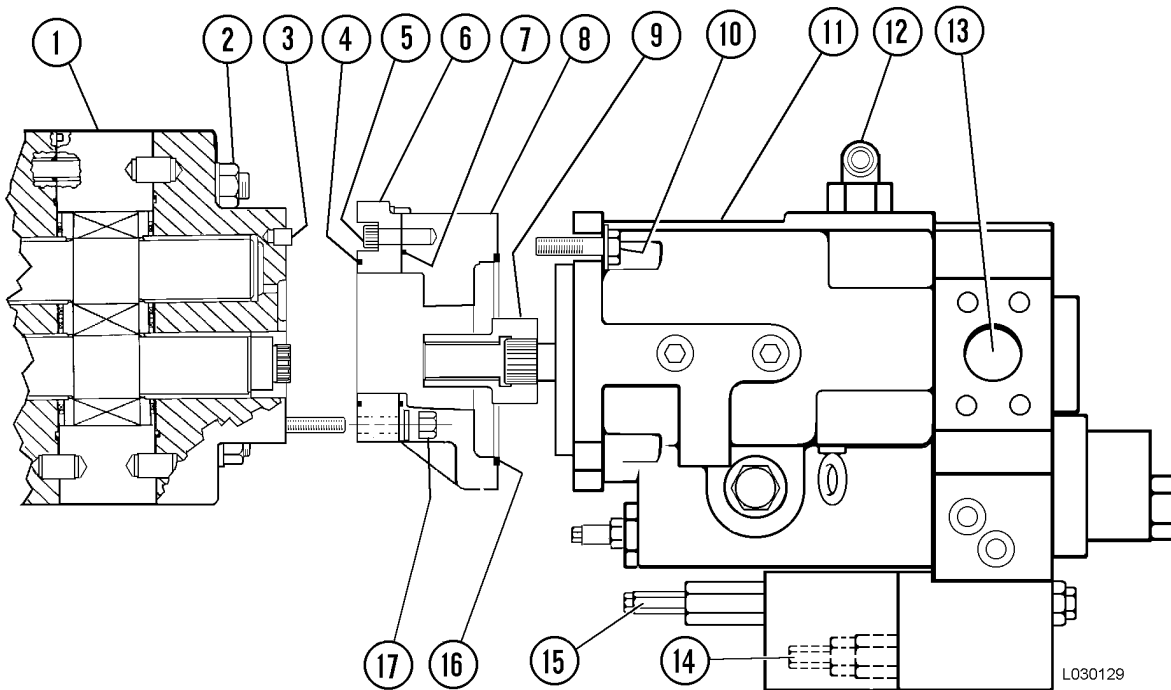

FIGURE 3-3. STEERING/BRAKE PUMP REMOVAL
10. Remove four steering/brake pump mounting capscrews (4). Slide the hoist pump forward to disengage the splines of drive coupling (9, Figure 3-3) from the steering pump.
1. Install O-ring (16, Figure 3-3) to steering pump (11). Install coupler (9) to hoist pump.
1. Thoroughly clean the exterior of the pump assembly. If the steering pump is attached, remove capscrews (10, Figure 3-3) and pull the steering pump free of transition plate (8). Remove O-ring (16).
2. Remove and inspect coupling (9). Remove and discard the internal snap ring, if installed. Remove dowels (3) if damaged or if replacement of the bearing plate is necessary.
4. Remove nuts (17, Figure 3-3). Remove bearing plate (20, Figure 3-4) with transition plate (22) and O-ring (26). Remove the capscrews that secure the bearing plate to the transition plate. Remove O-ring (23). Remove the dowels if damaged or if replacement of the transition plate is necessary.